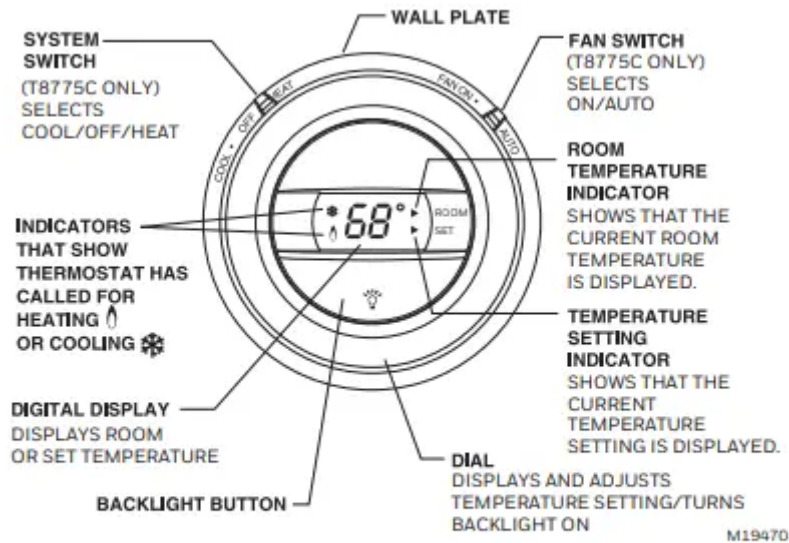

Fig. 1. T8775 Thermostat (features and operation).
- System and Fan settings are controlled by using SYSTEM and FAN switches located on the top of the thermostat (see Fig. 1).
- **Backlit Display:** The backlight can be turned on by turning the dial, or by pushing the backlight button as shown in Fig. 1.